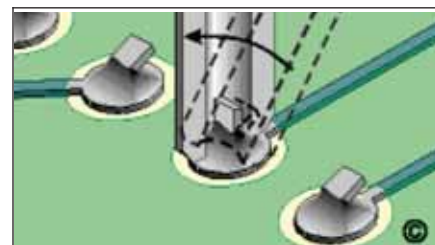

Figure 1
8. Confirm complete solder melt of contacted lead and gently straighten the lead to a vertical position. (See Figure 1.)